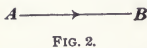

FIG. 2.
81. According to Art. 44, in order that forces may be compared with one another, three conditions must be fulfilled. These conditions may all be represented by a line; hence, we may represent forces by lines. Thus, in Fig. 2, let A be the point of application of the force, let the length of the line AB represent its magnitude, and let the arrowhead indicate the direction in which the force acts; then, the line AB fulfils the three conditions and the force is fully represented.
forces by lines. Thus, in Fig. 2, let A be